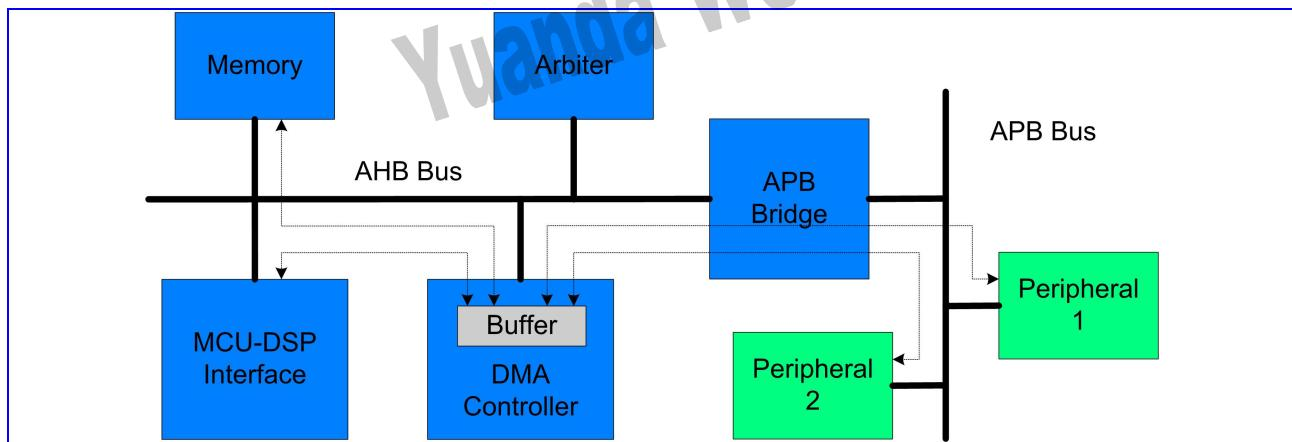

**Figure 21** Block Diagram of the Micro-Controller Unit Subsystem in MT6252
**Figure 21** illustrates the block diagram of the Micro-Controller Unit Subsystem in MT6252. The subsystem utilizes a main 32-bit ARM7EJ-S RISC processor, which plays the role of the main bus master controlling the whole subsystem. All processor transactions go to code cache first. The code cache controller accesses TCM (memory dedicated to ARM7EJS core), cache memory, or bus according to the processor's request address. If the requested content is found in TCM or in cache, no bus transaction is required. If the code cache hit rate is high enough, bus traffic can be effectively reduced and processor core performance maximized.